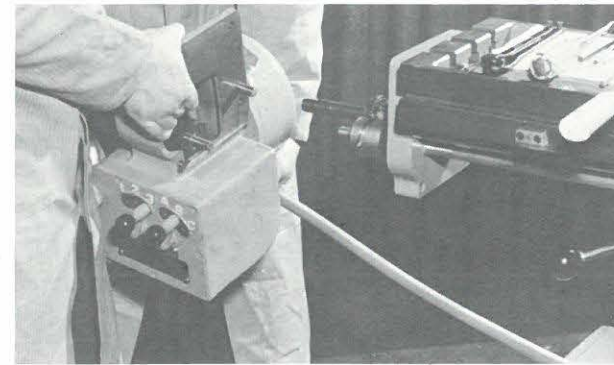

FIGURE 21A
3. Take out screws (138B, 136B, page 74) and tap gear housing bracket (144B) with bearing retainer (225B, page 76), oil seal (226B) and bushing (227B) off mounting apron (128C, page 74). [See Figure 21A.]